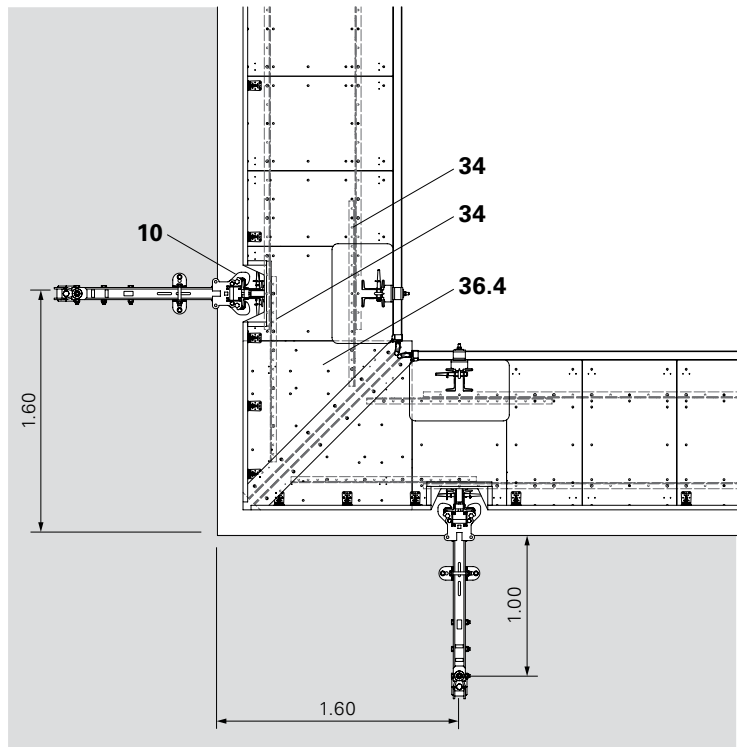

Fig. B3.08
With a distance of the shoes to the corner of 1.60 m and no projection of the slab shoes (10), no Telescopic Screens are required in the platform area. (Fig. B3.08)